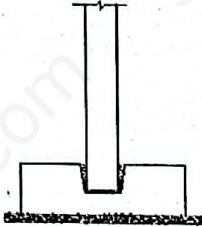

Figure 5
24. The Figure 5 below describes